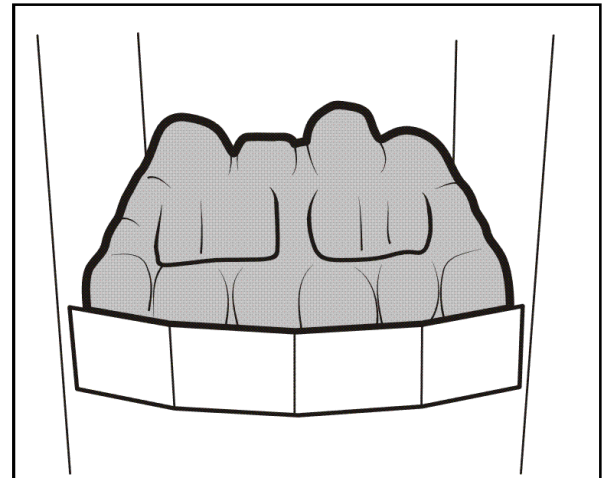

Figure 21 Base Pebble Position
1. Place the base pebble in the firebox. It should rest on the ledges at the rear sides of the burner unit. See figure 21.